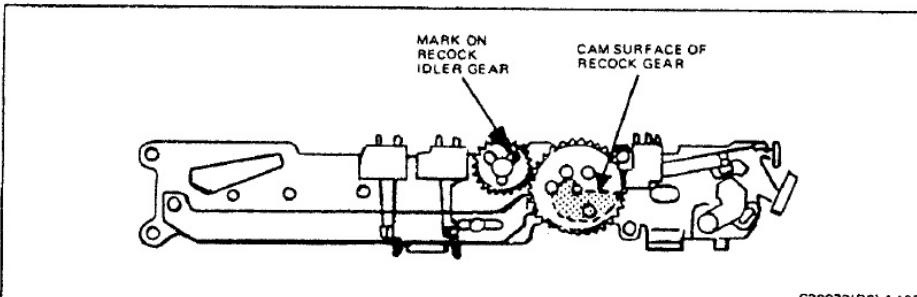

FIGURE 4-103 POSITIONING RECOCK IDLER GEAR AND RECOCK GEAR
1. Using a pencil, mark one of the three points of the "Y" mold on the recocock idler gear (see Figure 4-103).
2. Install the recocock idler gear on the outer plate so the pencil mark is at the two o'clock position (Figure 4-103). (Be sure the gear moves freely after the rivet is installed. Then, set the pencil mark at two o'clock again.)
3. Install the recocock gear so the flat surface of the cam under the gear is parallel with the long edge of the outer plate (Figure 4-103). Note that the cam is on the bottom when the cam is installed.